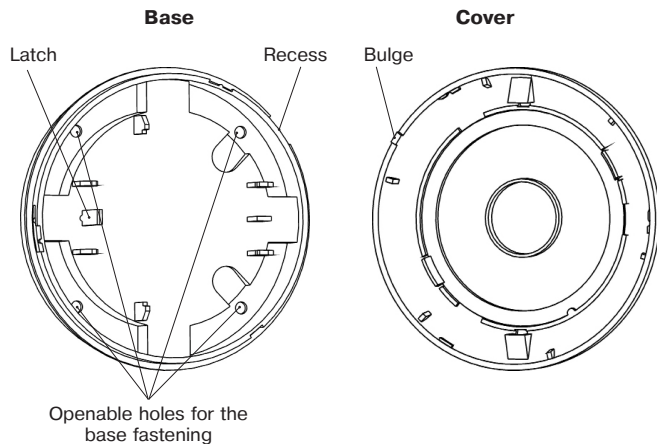

Figure 2 – Base and cover of the Detector
- put off the Detector cover by its turning counter-clockwise until tight to the recess on the external ring of the Detector base and then rise the cover (see Fig.2);
- put off the printed circuit board (PCB) by unfastening the latch, located on the base (see Fig.2);
- drill the holes in the base (see Fig.2) for the Detector wiring and fastening the base;